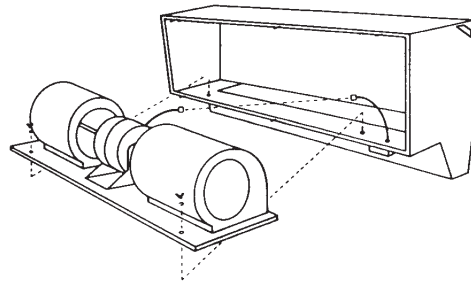

Figure 3 - Removing Motor/Blower Assembly
5. Carefully disconnect motor electric cord plug assembly and remove two wing nuts on blower base. (See Figure 3.)